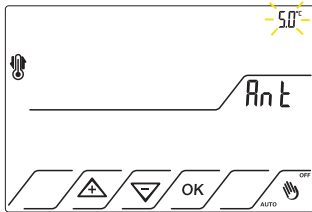

Fig.38
10.4.4 Press  or  to set the desired frost protection. Fig.38